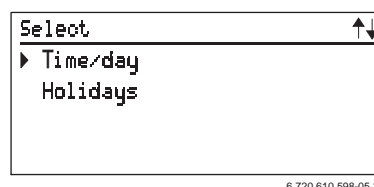

Fig. 39 Submenu: Time/day
- ▶ Press the  button to confirm the setting and return to the previous menu (fig. 39 page 26).